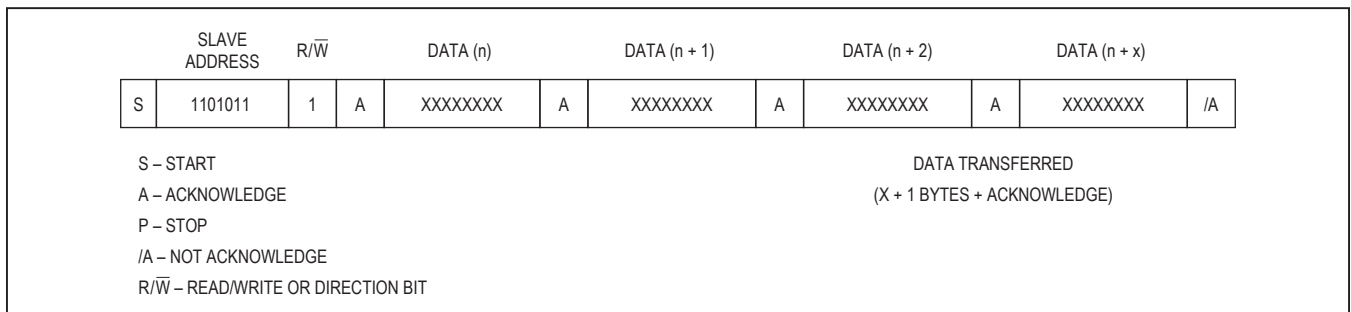

Figure 8. Data Read—Slave Transmitter Mode
**Slave Transmitter Mode (Read Mode):** The first byte is received and handled as in the slave receiver mode. However, in this mode, the direction bit indicates that the transfer direction is reversed. Serial data is transmitted on SDA by the DS1682 while the serial clock is input on SCL. The slave address byte is the first byte received after the master generates a START condition. The address byte contains the 7-bit DS1682 address, followed by the direction bit ( $R/\bar{W}$ ). After receiving a valid slave address byte and direction bit, the DS1682 generates an acknowledge on the SDA line. The DS1682 begins to transmit data on each SCL pulse starting with the register address pointed to by the register pointer. As the master reads each byte, it must generate an acknowledge. The register pointer increments after each byte is read. The DS1682 must receive a “not acknowledge” on the last byte to end a read (Figure 8).